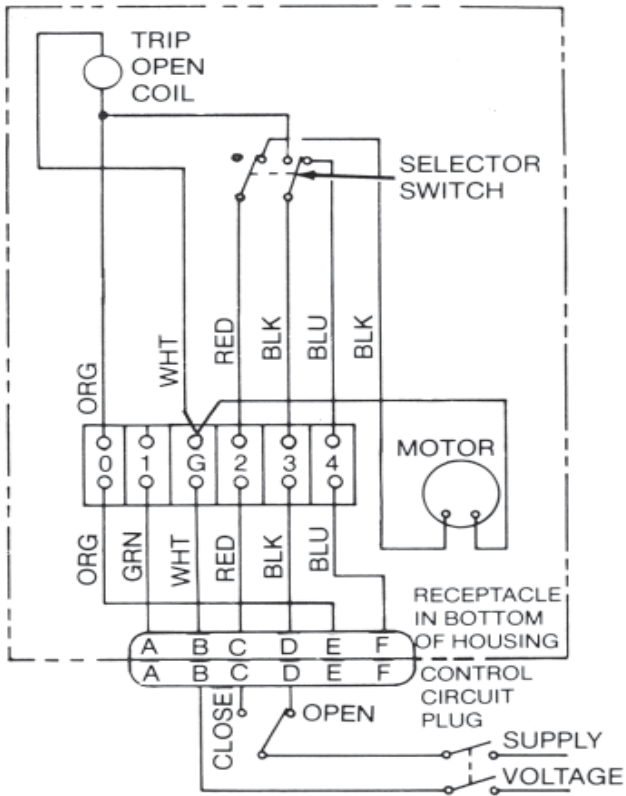

Figure 19.
- a. To close the switch, apply rated operating voltage across terminals 2 and G long enough for motor to complete its closing cycle (approximately 10 seconds). Refer to Figure 19.
- b. To open the switch, momentarily apply rated operating voltage across terminals 3 and G to energize the trip solenoid. Refer to Figure 19.